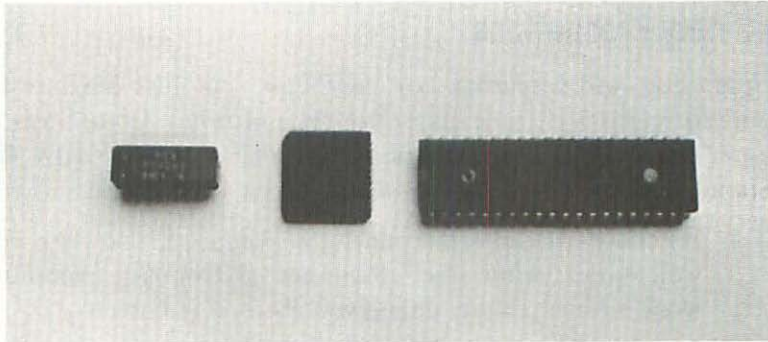

Figure 1-1 Chips come in all sizes and shapes.
All Macintosh II computers use silicon chips. Silicon chip, or chip for short, is synonymous with integrated circuit (IC). As shown in Figure 1-1, chips come in all sizes and shapes, and they can be made of different materials.